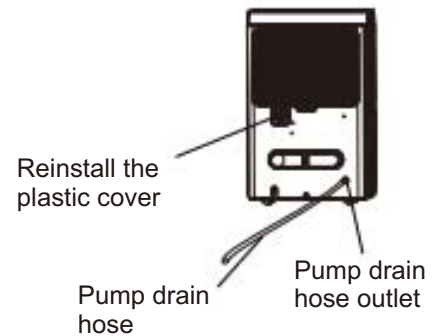

Fig. 11
- Remove the continuous drain hose from the unit and install the plastic cover to the continuous drain hose outlet of the unit by clockwise rotation. (See Fig.11)
- Resert the pump drain hose into the pump drain hose outlet for depth of 15mm at least (See Fig.11), then lead the water hose to the floor drain or a suitable drainage facility.